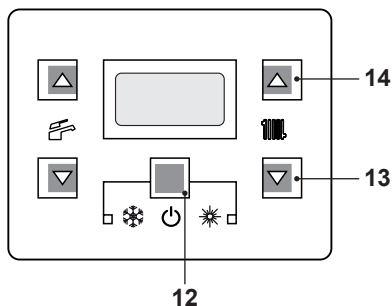
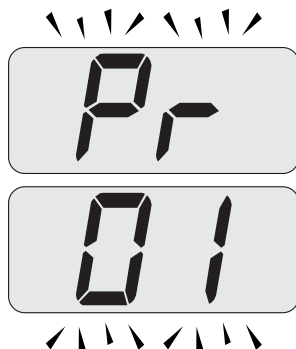

Fig. 10.17
Fig. 10.18
- Enter in "programming mode" by sequentially pressing and holding in keys, 12 - 13 and then 14 (Fig. 10.17) for 10 seconds until the letters **Pr** that alternate with code **01** are displayed on the LCD display, indicating that "parameter 01" (Fig. 10.18) has been activated.
- Press keys 13 and 14 (Fig. 10.17) at the same time until the LCD display displays the letters **LP** that alternate with the heating water temperature value (e.g. **45**), indicating the activation of the "flue sweep function" at minimum output (Fig. 10.19).
- By pressing 14 (Fig. 10.17) it is possible to change power in flue sweep mode: with the letters **hP** on the LCD display which alternate between the heated water temperature (i.e. **32**), we are in the "flue sweep function" at the minimum power during heating (Fig. 10.20).
- Press sequentially keys, 12 - 13 and then 14 (Fig. 10.17) and hold in for 10 seconds to exit the "flue sweep mode" and return to the previously set boiler status (Fig. 10.22).